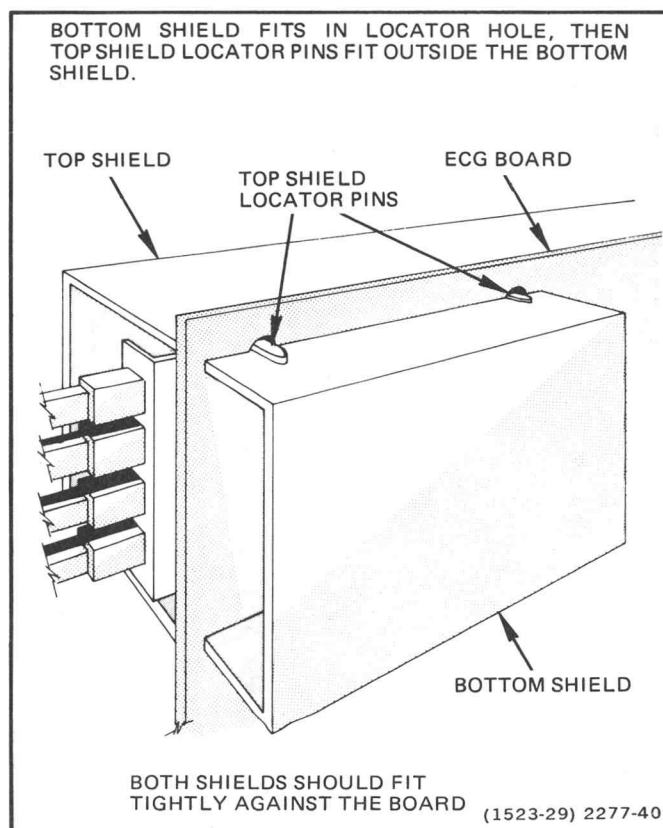

Fig. 5-10. ECG shield installation.
2. Install shield as shown in Fig. 5-10.